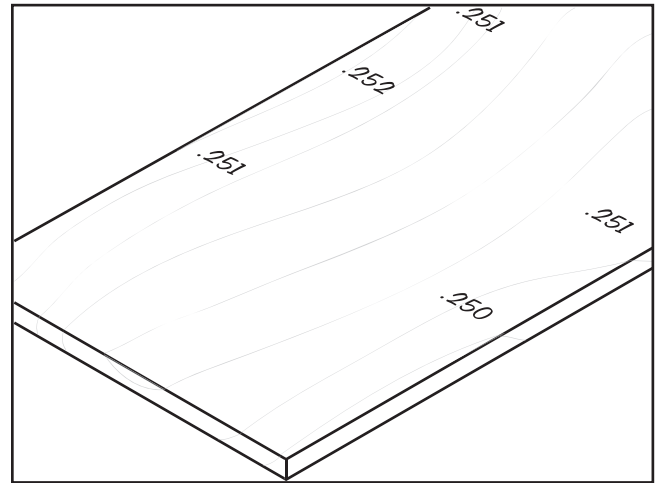

Figure 59. Test board with measurements.
2. Use a caliper to measure the thickness of the cut piece in even locations along the edges of the stock. As you take these measurements, write them directly on the stock, near the location where you took the measurement (see **Figure 59**). Note—*DO NOT measure the first and last six inches of the board, because the board will only have been under one pressure roller during that part of the cut.*